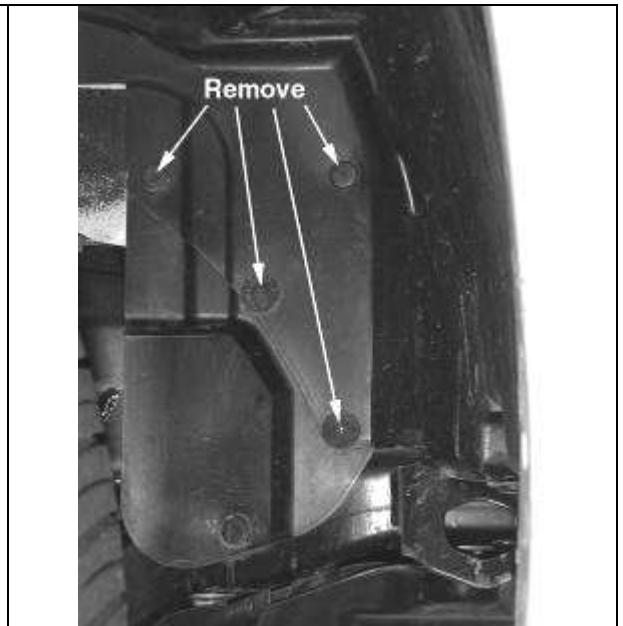

Fig. 4
- h. With the front wheels turned all the way to the right, locate the plastic clips just forward of the suspension holding the liner to the passenger side wheel well and remove them. (Fig.4)